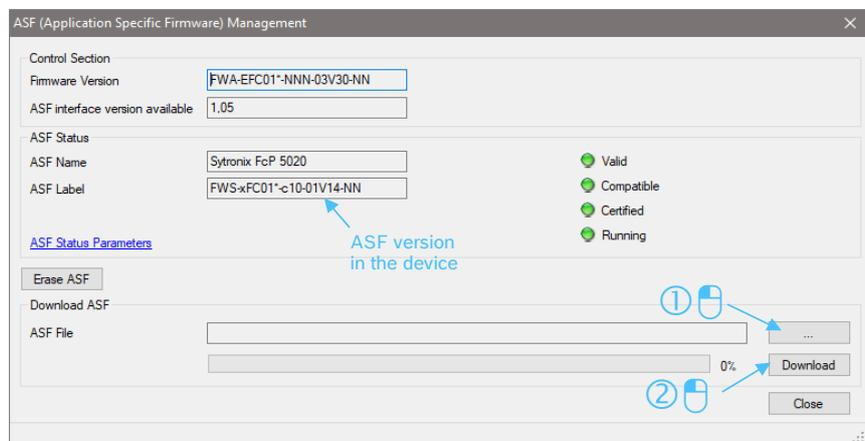

Abb. 15: ASF update window
- ▶ Click on "." to navigate to an ASF file (*.ibf) and download it to the device by clicking on "Download" (see Abb. 15: ASF update window).